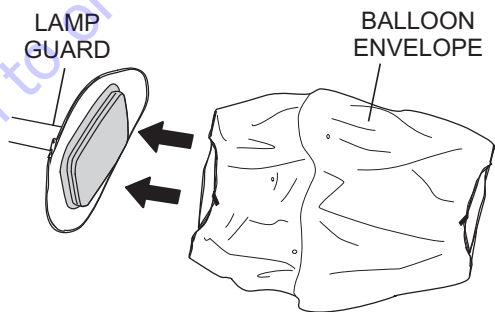

Figure 40. Installing New Balloon Envelope
3. Slide the new balloon (Figure 40) envelope over the top of the lamp guard assembly.